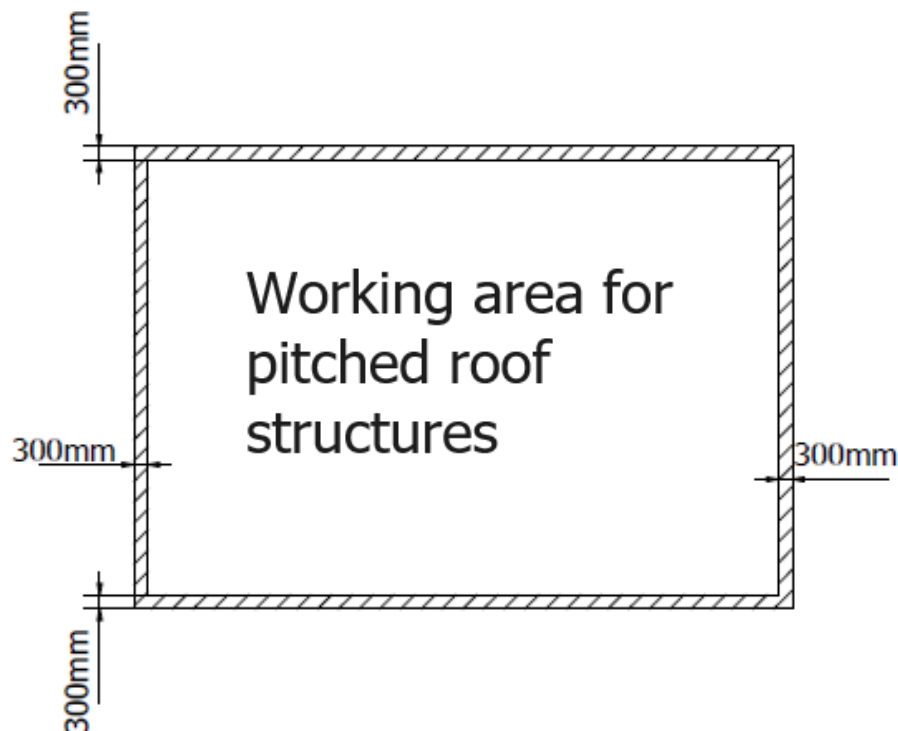

FIGURE 1 Clear zone for structures on the roof
1. The layout of the modules shall be arranged to minimize or preclude the appearance of shadow on the modules. Keep in mind that even the shadow cast by trees or buildings can limit the yields generated by modules. When mounting the system in summer, be aware that the shadow cast by trees and neighboring buildings will reach much further in winter. Also remember to keep the safe zone on the roof sheathing - figure 1.